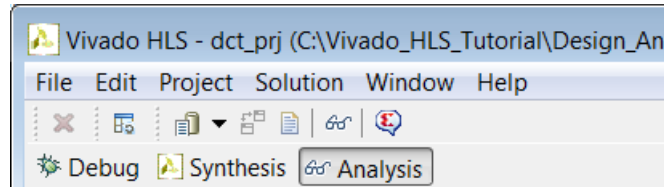

Figure 112: Opening the Analysis perspective
1. Click the **Analysis** perspective button (**Figure 112**) to begin interactive design analysis.